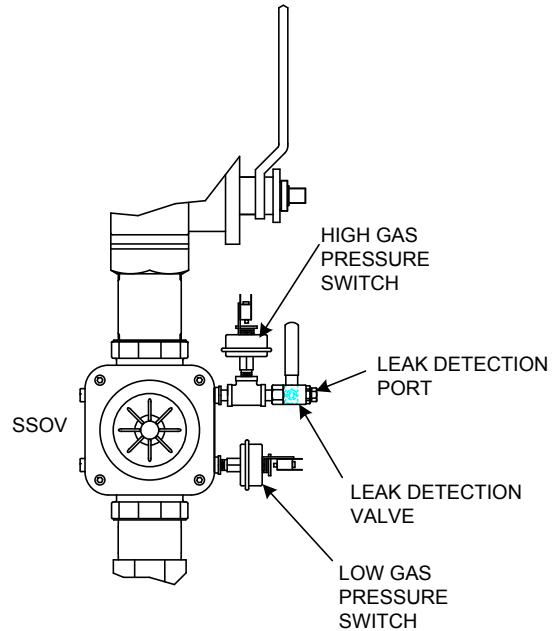

Figure 6.1
1. Referring to Figure 6.1, ensure that the 1/4" leak detection valve located at the high gas pressure switch is closed.
2. Remove either wire # 150 or wire #151 from the high gas pressure switch. See Fig. 6.1.